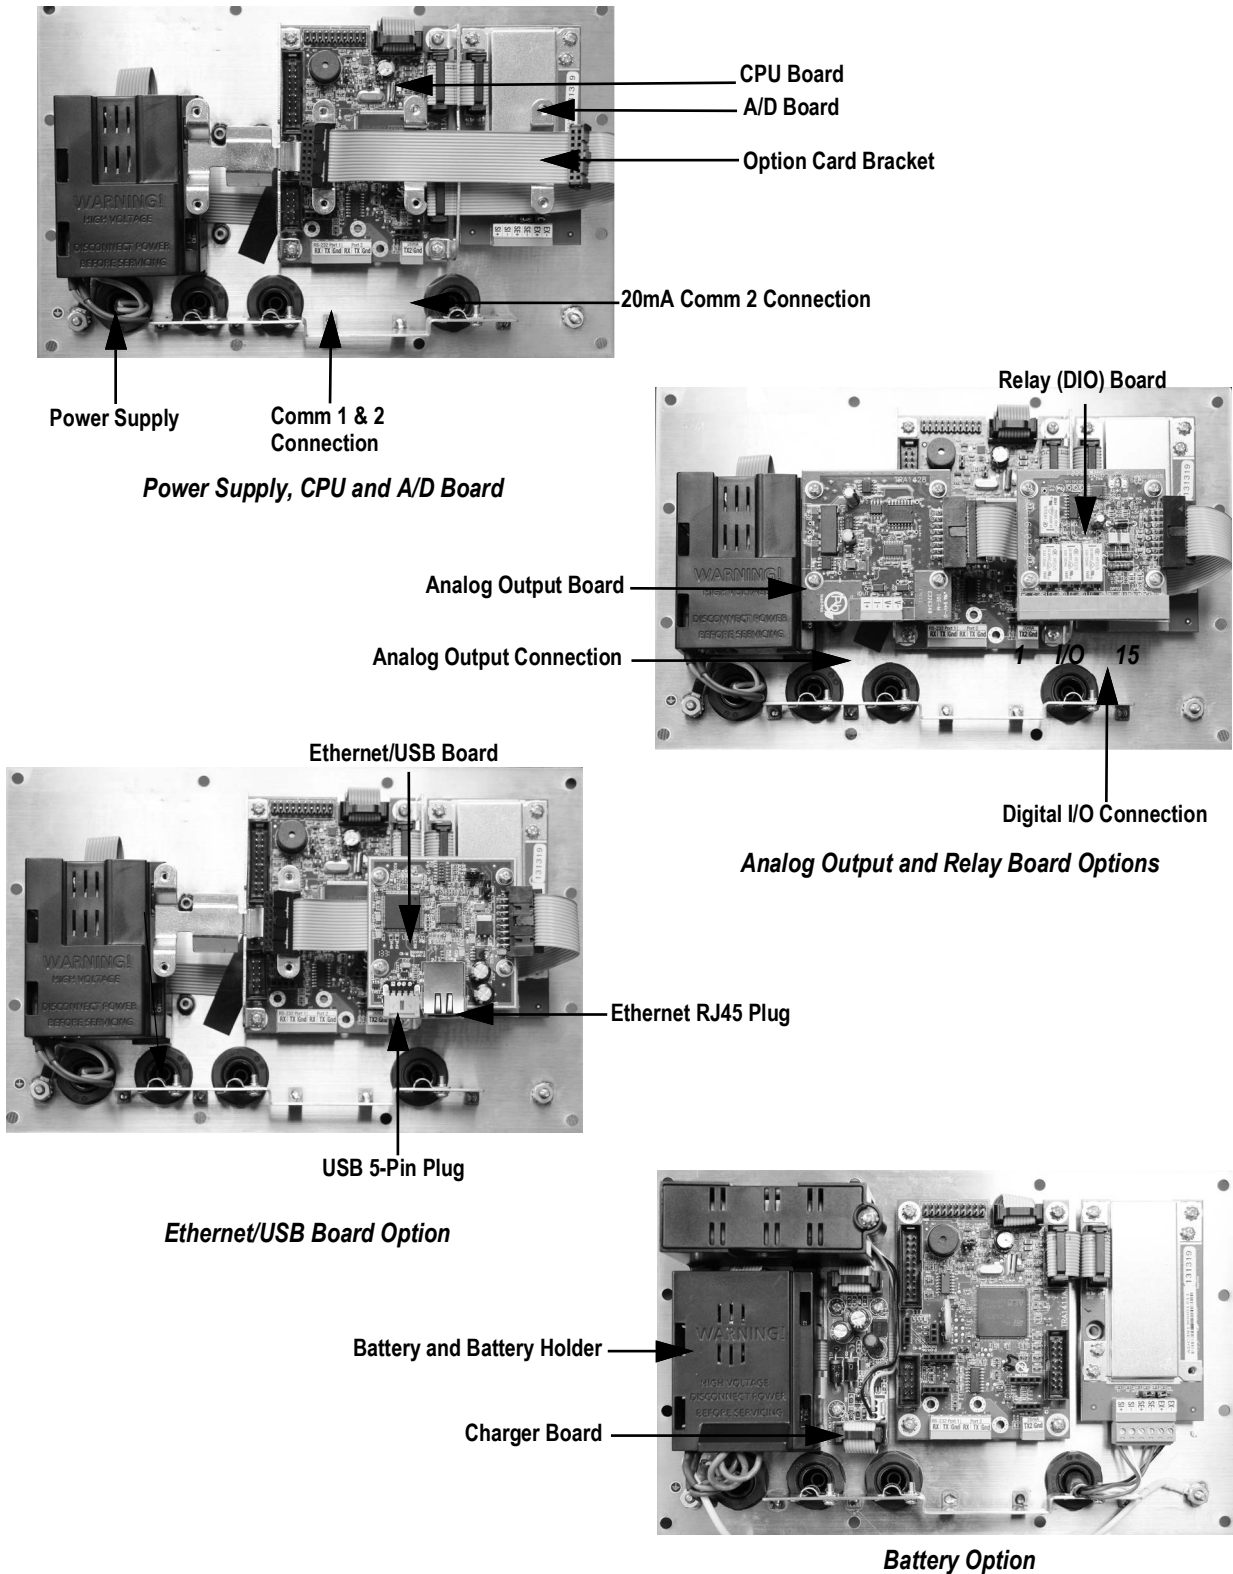

Figure 2-5. 480 Board Options
3. If not already in place, install an option card bracket (PN 131340), See Figure 2-5 on page 13.
4. Mount the analog output module, relay card or the Ethernet/USB option card on the option card bracket. See Figure 2-5 on page 13. The Ethernet/USB option card has to be installed on the option card bracket above the A/D card, not in the location near the power supply.